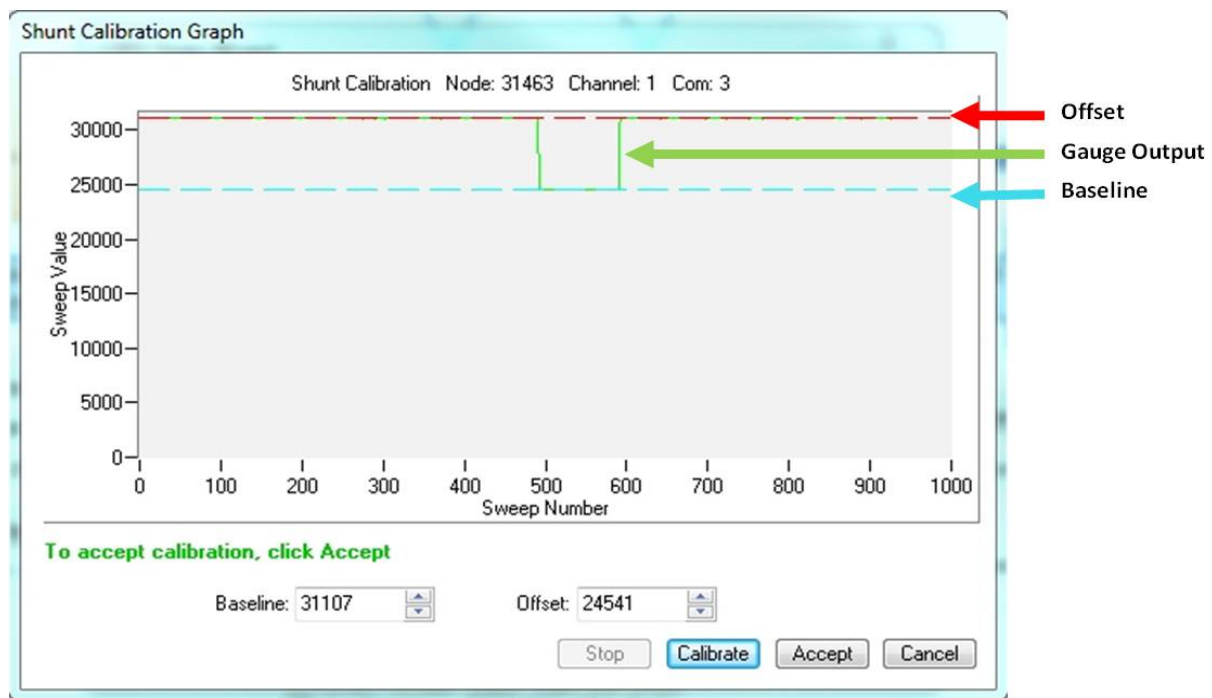

Figure 61 - Strain Gauge Calibration
15. Verify the calibration looks as shown in Figure 61 - Strain Gauge Calibration. The green line represents the output of the strain gauge. With no load applied it should sit near the Auto Balance baseline value, as shown, and is represented by the red dashed line. During calibration, a shunt resistance (selecting on the Parameters page) is applied across the strain bridge, shown by the square pulse on the output. The Offset value, shown with the dashed blue line, is the average output value of the pulse and should sit across the top of the pulse. If the gauge has not had time to equilibrate before sampling, or varying environmental factors exist, spikes in the gauge output may occur and affect the Baseline and Offset values. If this occurs, the Offset and Baseline values can be adjusted to clip the spikes in the output values. Adjust them as needed, and select Accept when completed.